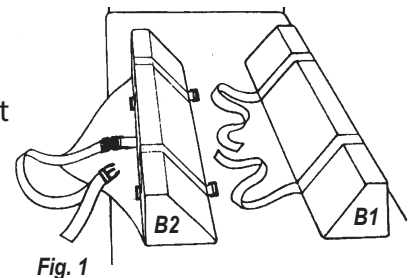

Fig. 1
1. Place the bolsters on the bed with the "Skil-Care" logo on top and the straps with the side release buckle to the outside. Note that on one bolster the fabric loop straps are located inward and on the other bolster the 2" webbing straps are placed inward (Fig. 1).